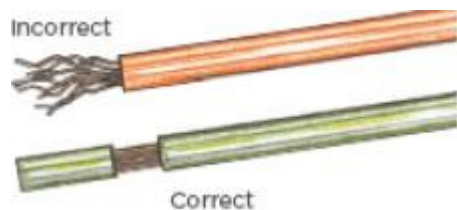

Figure 205
11. If broken or dented strands of wire are found cut and strip the wire again. Figure 205